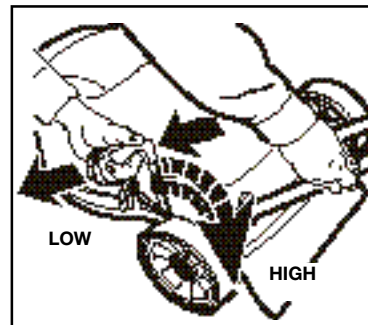

FIGURE 9
## WHEEL HEIGHT ADJUSTMENT (FIGURE 9)
3. Place your left hand on the height adjust handle and your right hand on the lower handle as shown in Figure 9.